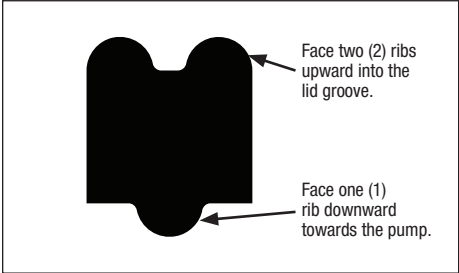

Figure 19. Cross Section of Lid Seal
- 3. Insert the seal into the lid groove with the two (2) ribs facing inwards into the lid groove and the one (1) rib facing outwards toward the pump. See *Figure 19* for a cross-section visual.